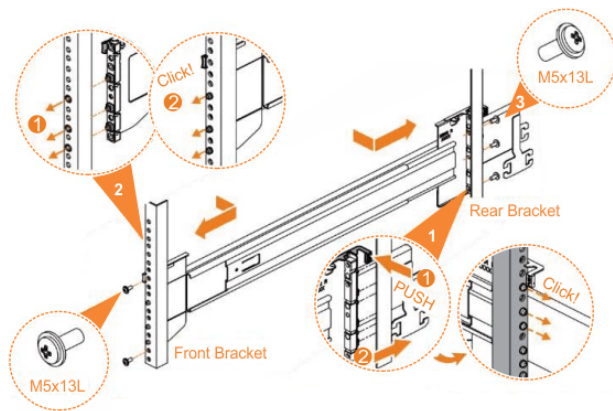

Figure 53. Installing the rail assembly to the rack frame
6. Use the M5 screws to install the outer rail member and bracket assembly to the rack, as shown in Figure 53 on page 82.